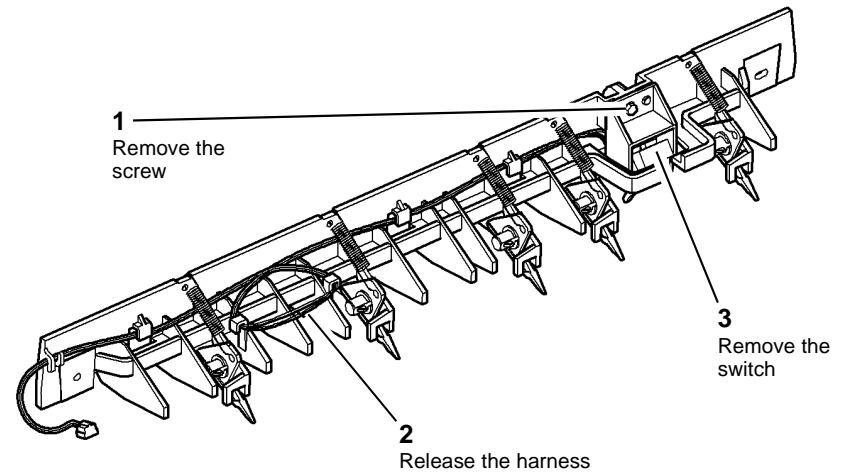

Figure 3 Fuser exit switch removal
4. Release the harness and remove the fuser exit switch, Figure 3.